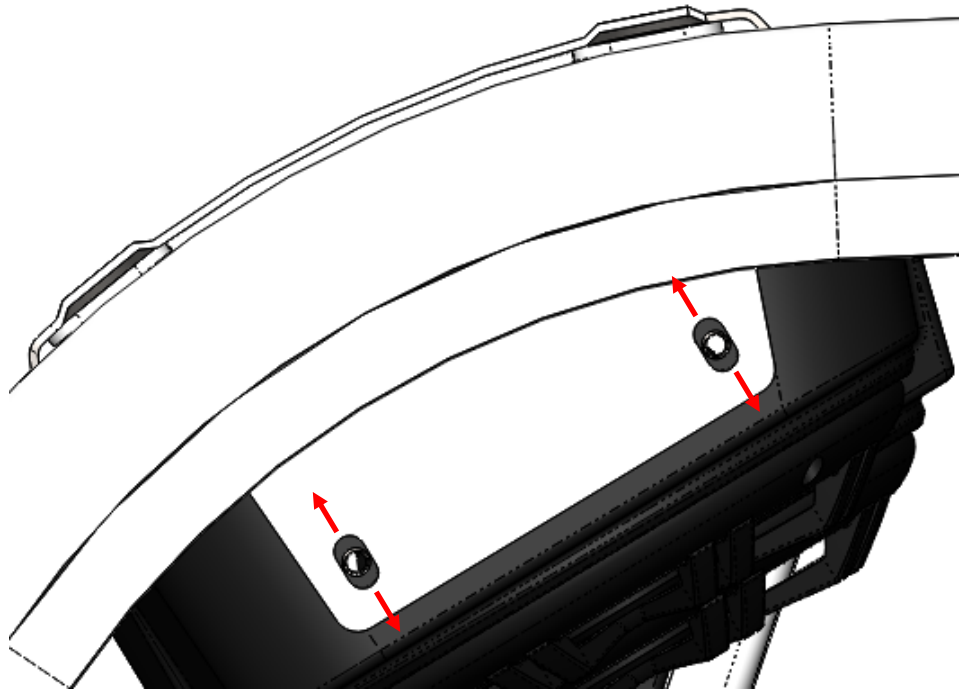

Figure 8: Up-down adjustability of the Audio Mini.
7. Tighten the 4 mounting bracket bolts after achieving the desired viewing position relative to the visor. Slots in the brackets allow for adjustability to achieve your desired viewing position. See Figure 8.